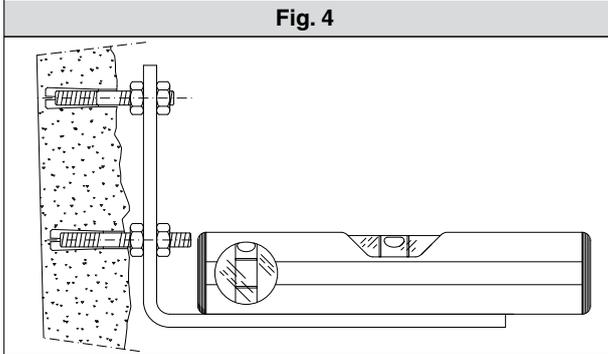

Fig. 5
- Fasten the gearmotor to the gate post using the 4 screws, pointing the gearmotor to the left or the right (fig.5).